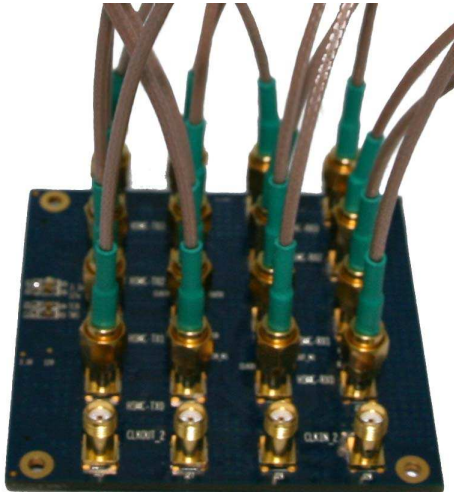

Figure 4.4 Short all the transceiver channels
- iii. Repeat steps i and ii to short the other transceiver channels as shown in Figure 4.4.